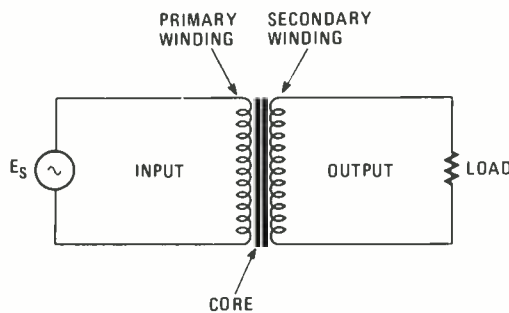

Fig. 17—An iron-core transformer is indicated by two vertical lines between the primary and secondary windings.
53. (independent inductances) The schematic symbol for a transformer is given in Fig. 17. It has two coils wound on a common iron core. An AC voltage is applied to the left-hand or input winding called the *primary*. A load is connected to the right-hand, output winding called the *secondary*. Even though there is no direct electrical connection between the primary and secondary circuits, current will flow in the load. *In a transformer, the AC input is applied to the _____ and the load is connected to the _____.*